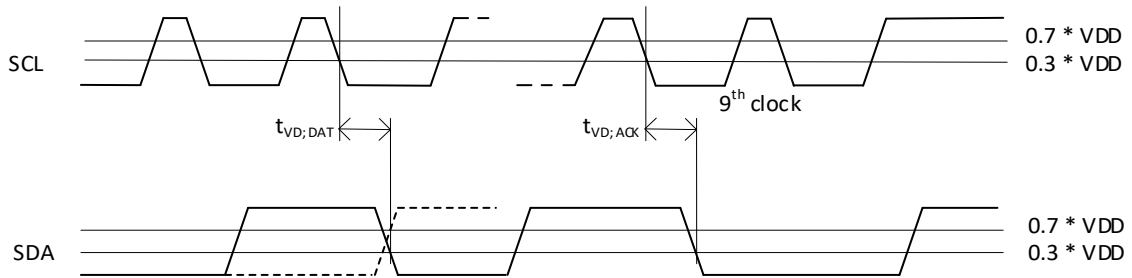

Figure 6-2. Parameter Measurement Waveform: $t_{VD;DAT}$ & $t_{VD;ACK}$
1. $t_{VD,ACK}$ = time for acknowledgement signal from SCL LOW to SDA (out) LOW, see Figure 6-2.
2. $t_{VD,DAT}$ = minimum time for SDA data out to be valid following SCL LOW, see Figure 6-2.